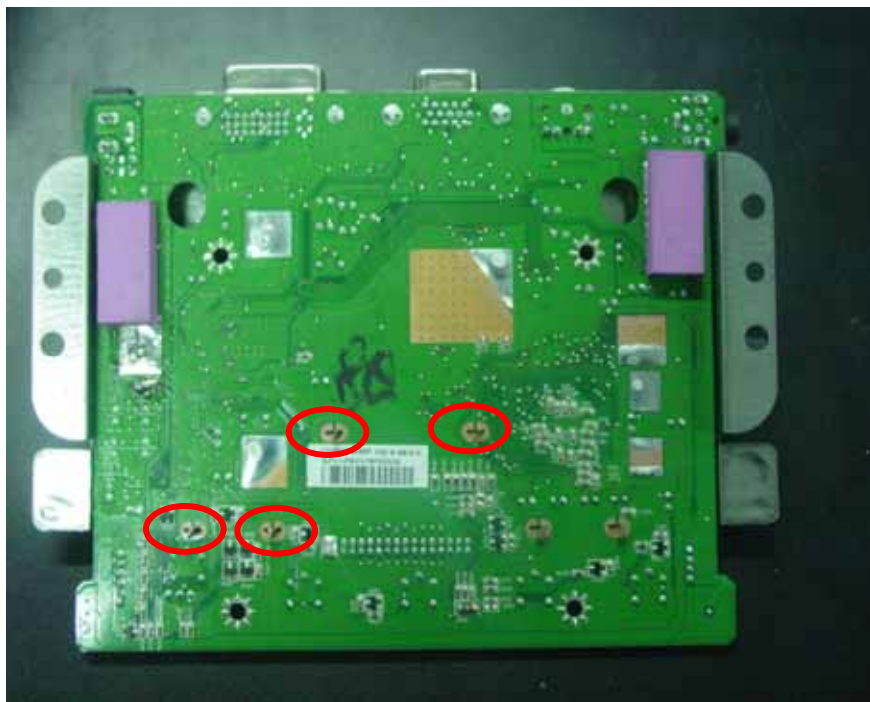

Fig 8
8. Remove six clamps to release shield and the main board. (Fig 8)